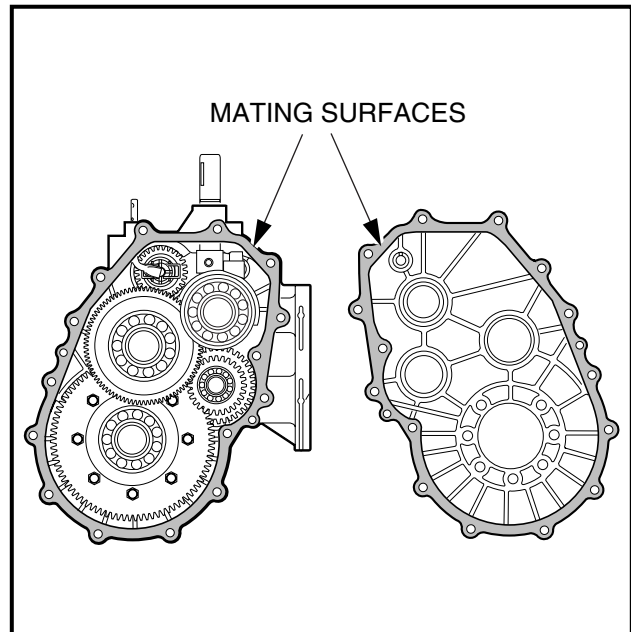

Figure 6-55 Prepare Mating Surfaces
9. Apply a continuous bead of Three Bond No. 1215 (CCI P/N 101928701) sealant to the mating surface around the complete profile of the right (passenger side) case (**Figure 6-55, Page 6-25**). See following **CAUTION**.